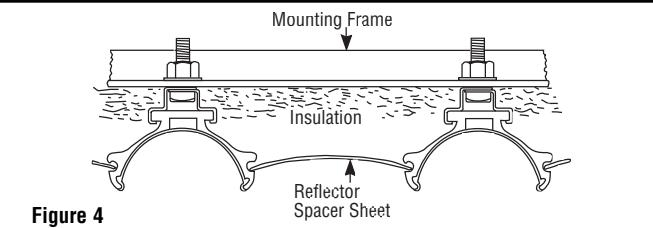

Figure 4
4. **Reflector Spacer Sheets** — Where heaters are not mounted side by side (see Fig. 4), reflector spacer sheets can be used between heaters. These reflector spacer sheets and companion reflectors consisting of an extruded aluminum housing with reflector sheet and mounting clamps are available. Check factory.
5. **Insulation** — Where unusually high work temperatures are encountered, it may be desirable to insulate behind heaters with high-temperature fibrous insulation. A suggested method of accomplishing this is indicated in Fig. 4.